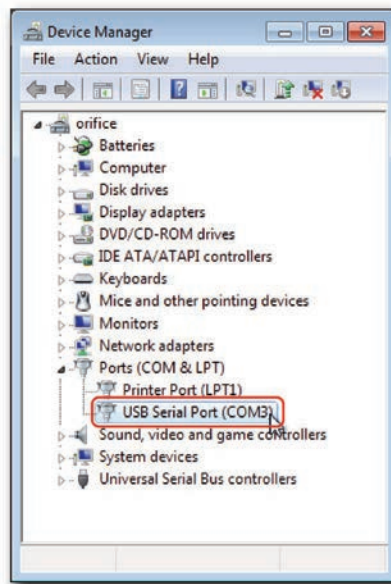

Fig 3: COM port number
3. Read the COM port number in your computer settings (In the device manager), Fig 3.